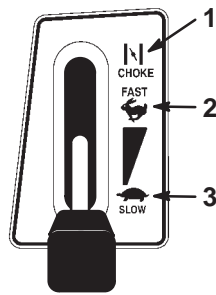

Figure 9
- Shift the throttle lever to Choke (Fig. 9).
- After the engine starts, slowly shift the throttle lever to Fast (Fig. 9). If the engine stalls or hesitates, shift the throttle lever back to Choke for a few seconds. Then shift the throttle lever to Fast. Repeat this as required.
- Shift the throttle lever to Fast (Fig. 9).